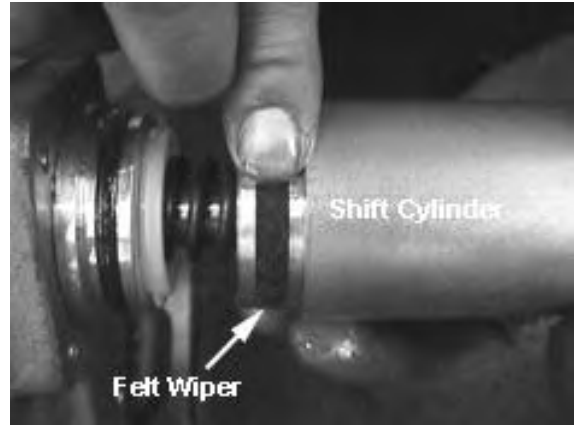

Fig. 80
38. Install an oil-soaked felt wiper into the large groove on the shift piston and install shift cylinder. See Fig. 80.